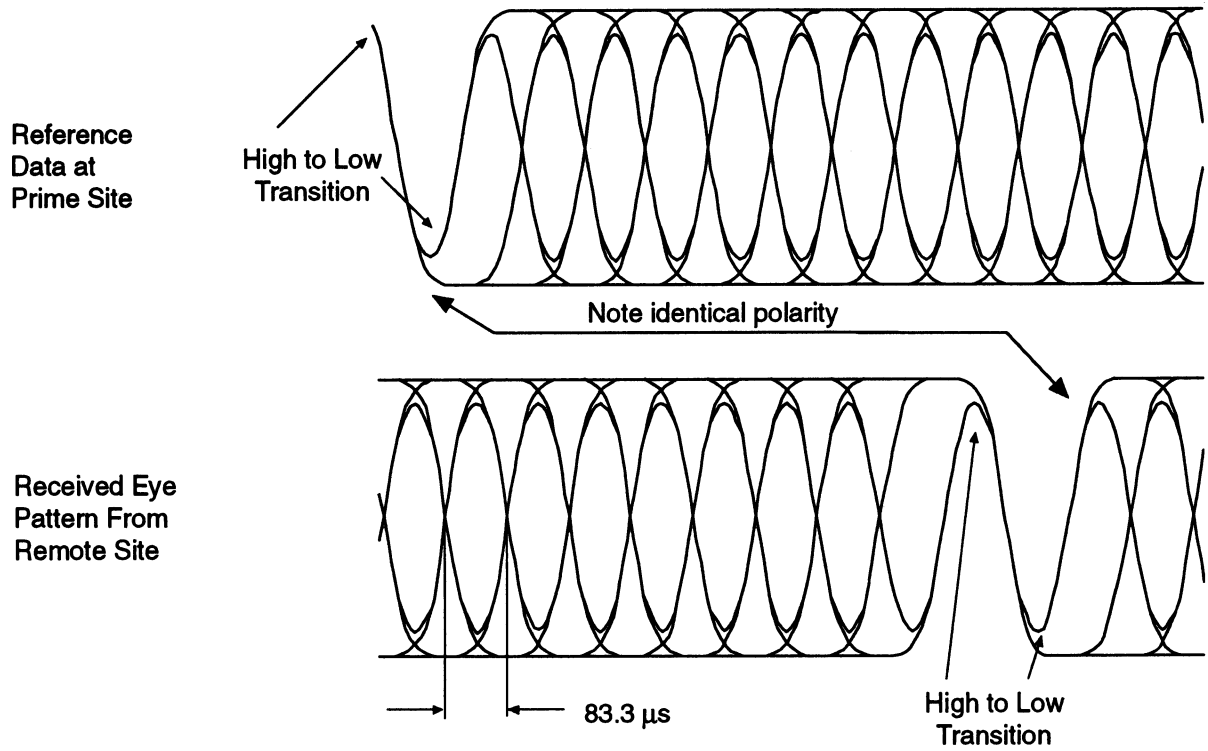

Figure 18. Non-Inverting Polarity for a Two-Level System
Step 3. Do one of the following to display a 12 kbit/sec filtered random data, or eye, pattern (Figure 18 and 19):
- p. To display the pattern as shown in Figures 18 and 19, adjust the vertical and horizontal SCALE knobs.
Step 7. Refer to Figures 18 and 19 and identify non-inverting or inverting polarity:
- If a non-inverting receiver (Motorola model R2024 service monitor or SYNTOR X 9000E) is being used, your eye pattern looks like Figure 18. Notice the high to low dip in the eye pattern from the prime site also appears in the remote site eye pattern.
You may have to adjust the vertical and horizontal SCALE knobs to display the same pattern as shown in Figures 18 and 19.